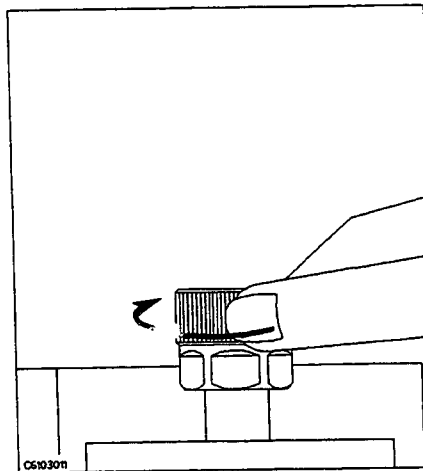

Figure 4-5.
3. Turn the APC-7[®] connector on the test head as shown in Figure 4-5.